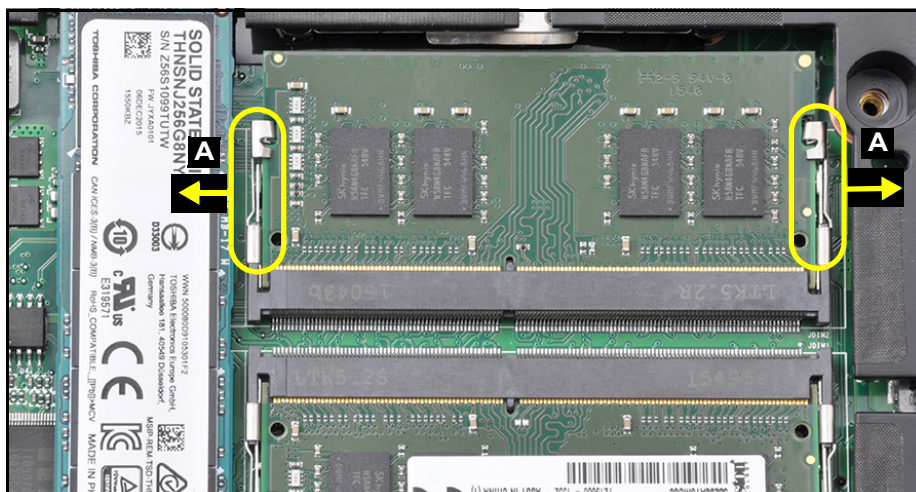

Figure 3-13. DIMM Removal
2. Push the DIMM clips (A) outwards (Figure 3-13).